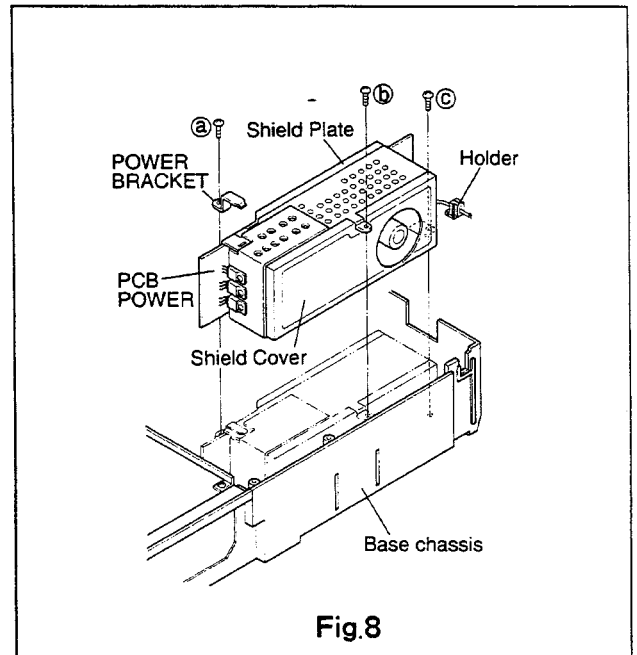

Fig.8
- B. Removal a screw (a) retaining the power bracket as shown in Fig. 8.